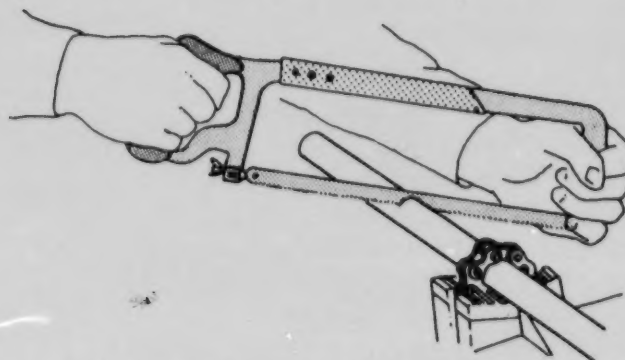

Fig. 4. Use a fine-toothed blade in the hacksaw. (Courtesy NIBCO Inc.)
Step 1: Cutting the tubing. The tubing can be cut with a hacksaw, abrasive wheel, or roller cutter. When using a hacksaw, use a fine-toothed blade that has at least three teeth in contact with the cutting edge at all times (fig. 4). Secure the tubing firmly in a vise. If a roller cutter is used, tighten the roller slowly to prevent upsetting (bending inward) the tubing more than is necessary (fig. 5).